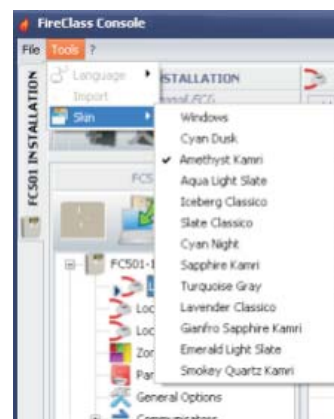

Figure 16 To modify the window look (skins).
This option allows you to modify the look of the window in the offer range (see Figure 16).
**Skin** To change the look of FireClass Console, click on **Tools** and then **"Skin"** that allows to choose, in a list, the available looks (see Figure 16).